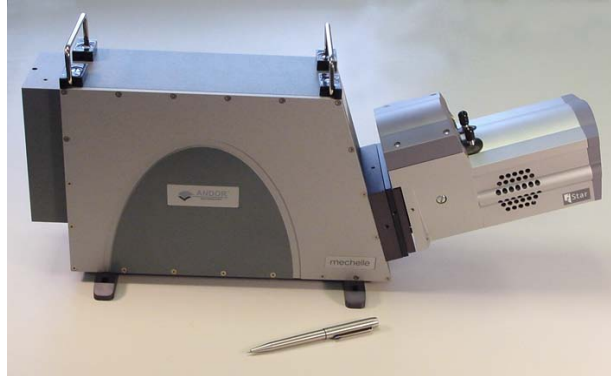

Figure 3: Mechelle fitted with an Andor iStar camera
- Mechelle spectrograph unit (see **figure 3** below)
- CCD or ICCD camera (pre-aligned, see **figure 3**)